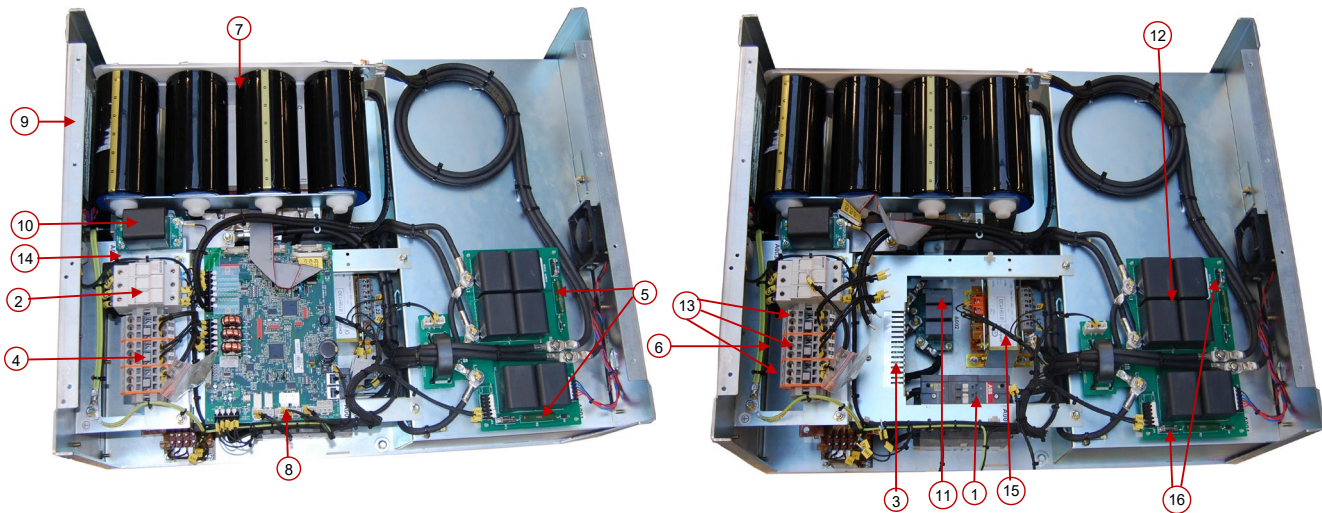

Figure 14: PQFS main components
Figure 14 shows a picture of the PQFS without cover panel.
^(a) For physical locations of customer CT connection terminals, please refer to **Figure 14**, item 4.